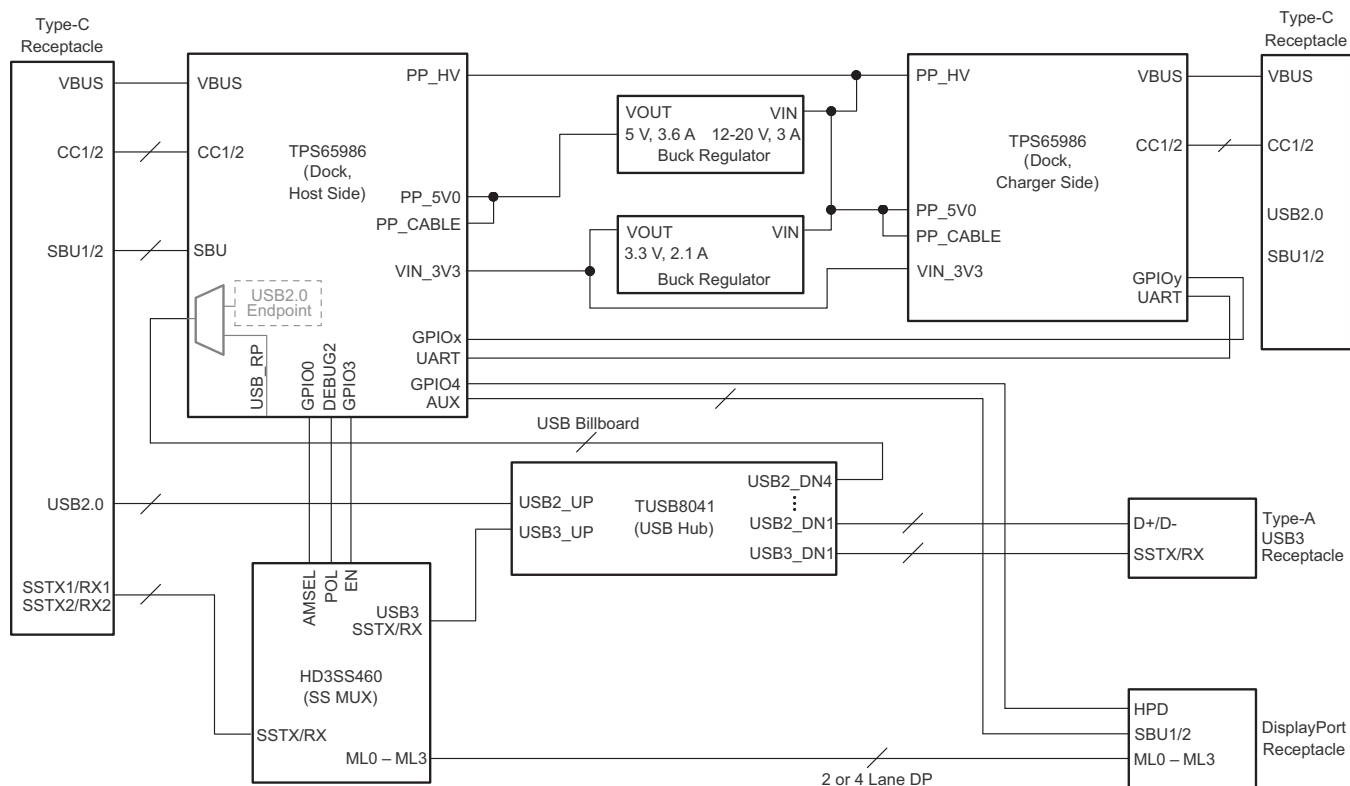

Figure 78. Type-C and PD Dock Application
The TPS65986 controls two separate power paths making it a flexible option for Type-C and PD dock application that simultaneously charges a USB PD DisplayPort video source (for example, a notebook computer). The dock application of the TPS65986, shown in Figure 78, uses a common node for PP_HV of both TPS65986 devices and uses a GPIO to sense when a charger is present on the charger-side TPS65986. The host-side TPS65986 will automatically enable a Source PDO to charge the notebook connected at the Type-C port and initiate a Power Role Swap PD message if the laptop was connected to the dock first. When the notebook is connected first and the charger is not present, the dock will boot from VBUS in No Battery mode and provide power to VIN_3V3, the Type-A USB3 receptacle, the video receptacle, and support circuitry. Refer to Figure 79 for a timing diagram showing the dock behavior when it is bus-powered from the host-side and Figure 80 for a timing diagram when the dock is line-powered from the charger-side. In the timing diagrams, the host -side is referred to as the Left (L) side and the charger-side is referred to as the Right (R) side, the same orientation shown in the Figure 78 block diagram. The video receptacle can be DisplayPort, HDMI, or VGA although only DisplayPort is shown in Figure 78. The dock application uses a Type-C receptacle and an HD3SS460 SuperSpeed multiplexer which is controlled by the host-side TPS65986. The CC1/2 pins of the TPS65986 will detect cable orientation and automatically configure the HD3SS460 SuperSpeed signal pairs for 2-lanes of USB3 data and 2-lanes of DisplayPort video or 4-lanes of DisplayPort video depending on the Alternate Mode configured by the host.